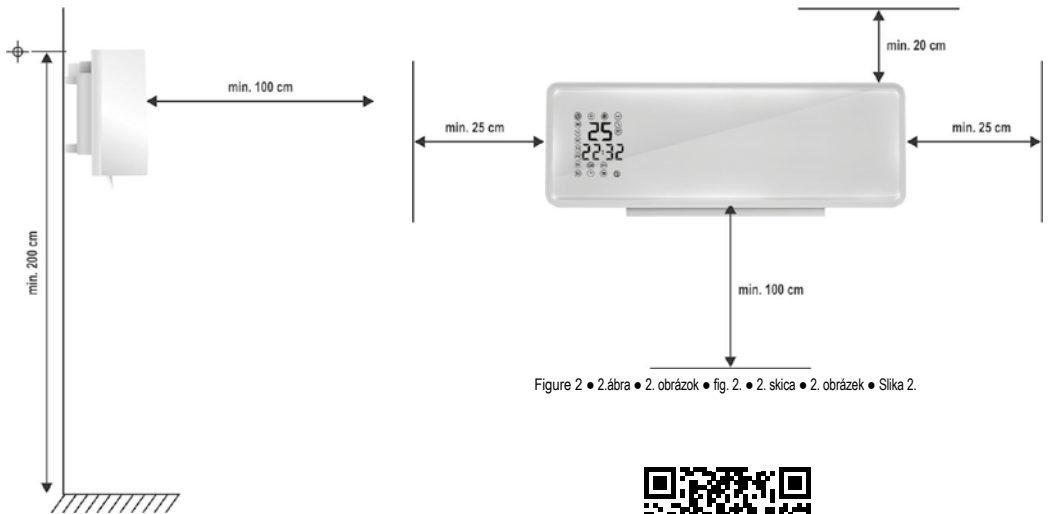

Figure 2 • 2.ábra • 2. obrázok • fig. 2. • 2. skica • 2. obrázek • Slika 2.
9. Never locate the unit directly in corners and observe the minimum mounting distances indicated in **Figure 2**. Take into consideration the valid safety regulation of the county of use!
3. The free flow of warm air must be ensured for proper operation, therefore, please select the location for wall mounting according to **Figure 2**. Do not locate the appliance directly below a wall outlet!